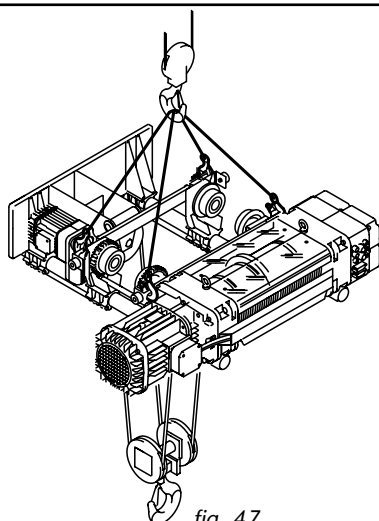

fig. 47
- release the trolley/hoist from the fastenings which tie it to the pallet, harness it at the points shown (fig. 47) and lift it about 1m.